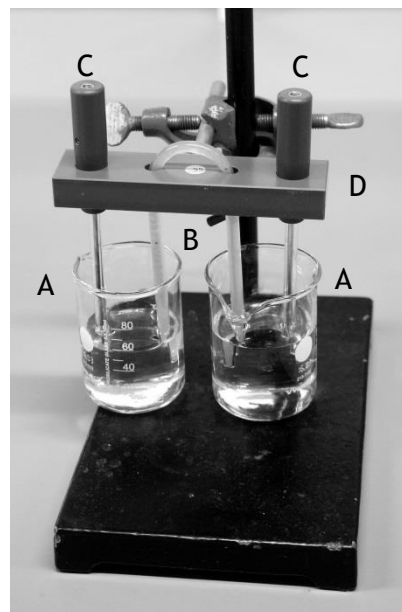

Figure 2 - Experimental setup, start situation
A photograph of the experimental setup is provided in Figure 2 (start situation).
- Two beakers of 100 mL (indicated by A in Figure 2)
- A salt bridge (B)
- Two silver/silver chloride electrodes (C)
- A plastic holder for the salt bridge and the electrodes (D)
At the start of the experiment the setup is as depicted in Figure 2. The salt bridge and electrodes are both submerged in salt solution X0. During the experiment the content of the left beaker is replaced by solutions X1 to X4, the right beaker stays filled with the X0 solution.